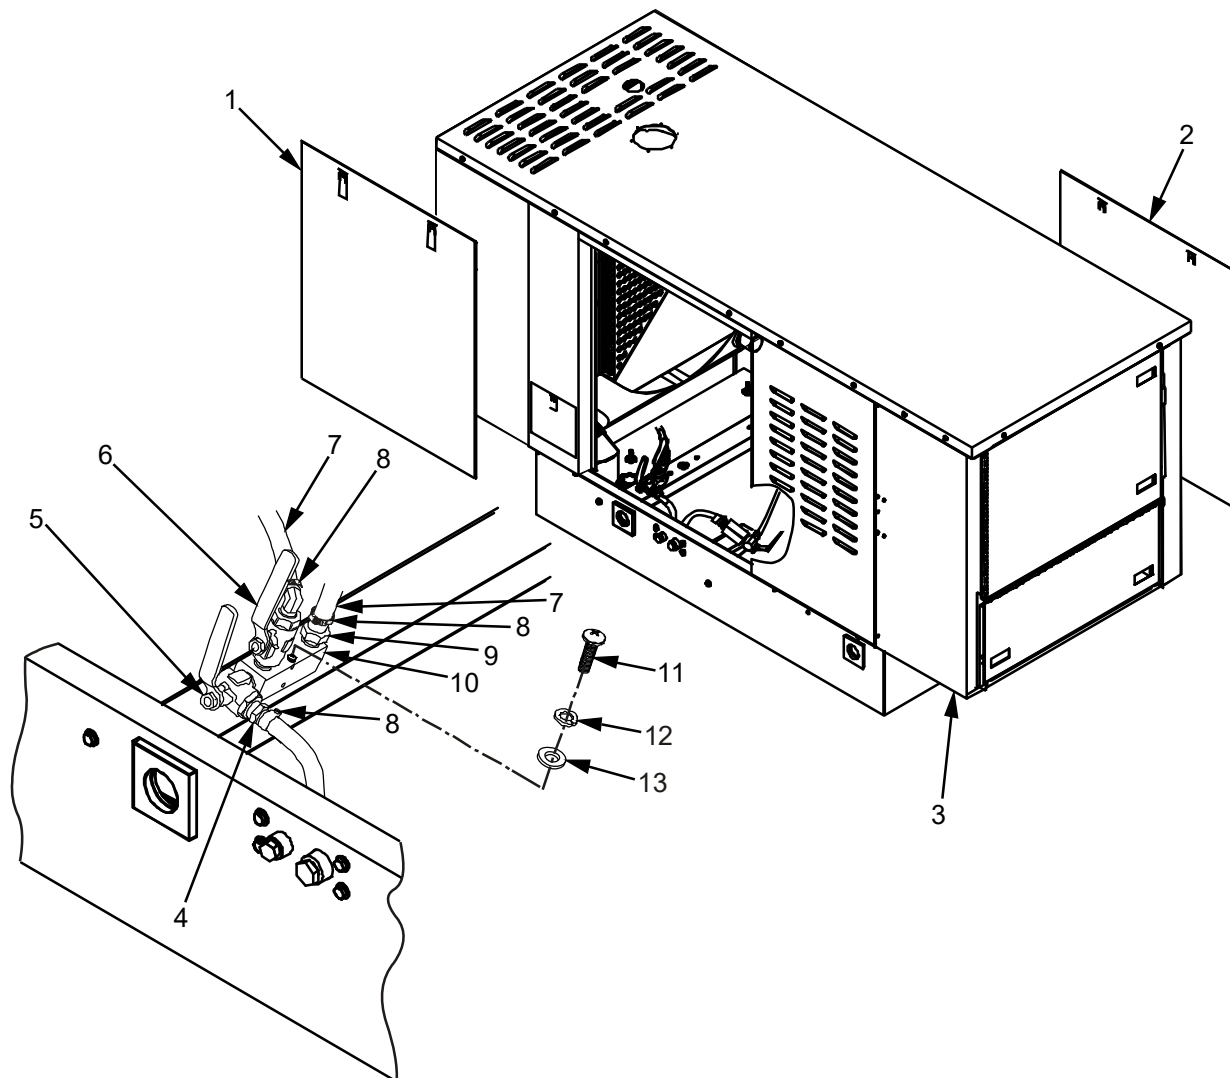

Figure 3. Engine Coolant Drain Valve Housing - Replace.
3. Remove the front and rear access panels (Figure 3, Items 1 and 2) on Genset (Figure 3, Item 3) and set aside.
6. Remove and retain two screws (Figure 3, Item 11), lock washers (Figure 3, Item 12), and flat washers (Figure 3, Item 13) that secure valve housing (Figure 3, Item 10). Discard lock washers (Figure 3, Item 12),
7. Remove any cable ties securing hoses (Figure 3, Item 7) together.
8. Loosen but do not remove clamp (Figure 3, Item 8) securing hose (Figure 3, Item 7) to engine block. Remove hose (Figure 3, Item 7) and fitting (Figure 3, Item 9) from valve housing (Figure 3, Item 10).
9. Loosen but do not remove clamp (Figure 3, Item 8) on hose (Figure 3, Item 7) going to coolant drain port. Remove hose (Figure 3, Item 7) from drain valve (Figure 3, Item 5) and remove drain valve (Figure 3, Item 5) from valve housing (Figure 3, Item 10).
10. Remove drain valve (Figure 3, Item 6) from valve housing (Figure 3, Item 10).
1. Connect drain valve (Figure 3, Item 6) that comes from the bottom of radiator to valve housing (Figure 3, Item 10).
2. Connect fitting (Figure 3, Item 9) to valve housing (Figure 3, Item 10) and connect hose (Figure 3, Item 7) to fitting, secure in place with clamp (Figure 3, Item 8).
3. Connect drain valve (Figure 3, Item 5), fitting (Figure 3, Item 4), hose (Figure 3, Item 7), and clamp (Figure 3, Item 8) to valve housing (Figure 3 Item 10).
4. Attach valve housing (Figure 3, Item 10) to enclosure with two screws (Figure 3, Item 11), new lock washers (Figure 3, Item 12), and flat washers (Figure 3, Item 13).
8. Replace the front and rear access panels (Figure 3, Items 1 and 2) on Genset (Figure 3, Item 3).
9. Start Genset (Figure 3, Item 3) in accordance with WP 0005, Genset Start Procedure.